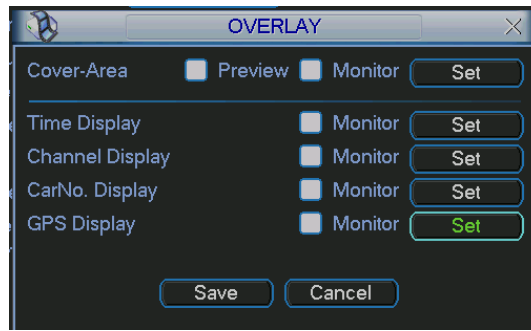

Figure 5-7
- Overlay: Click overlay button, you can see an interface is shown in Figure 5-7. Please note the following overlay titles can not be in the same position. **Please note only the unit of GPS module supports GPS overlay function.**